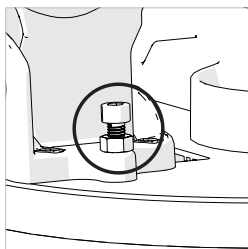

Fig. 23
- Loosen slightly the 45° Bevel Stop Adjustment Screw locknut. **(Fig. 23)**